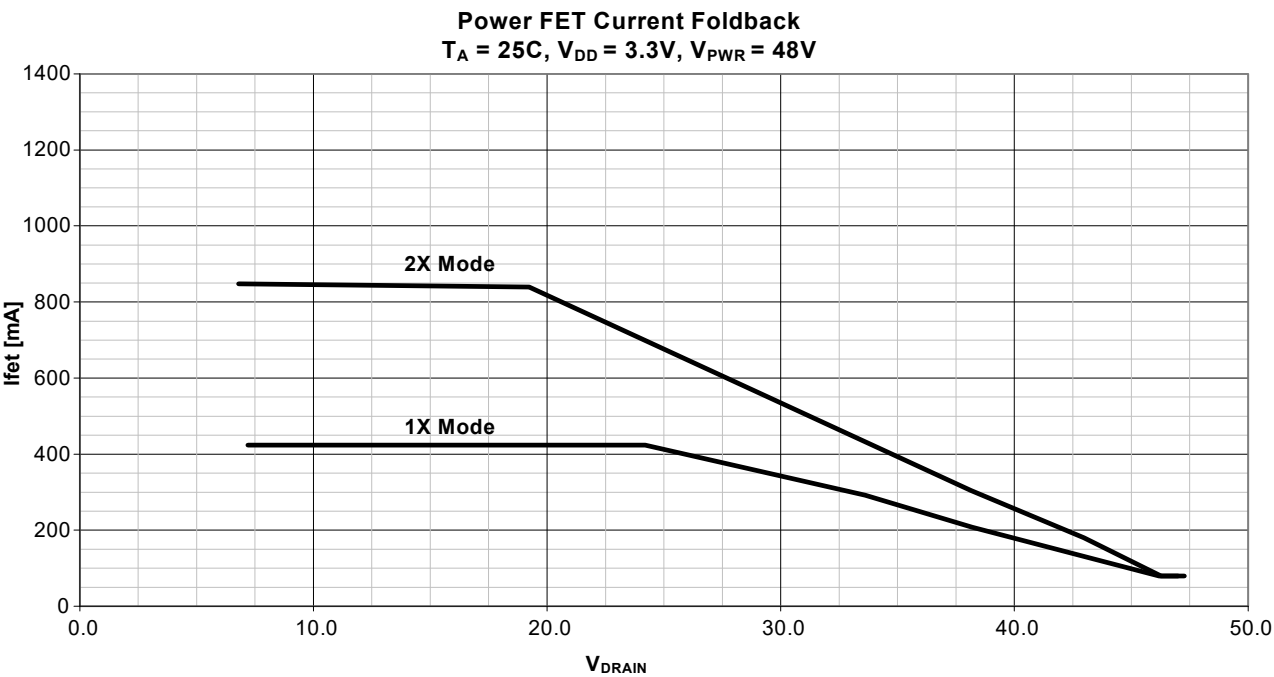

Figure 9. Fold Back Current in IEEE 802.3at (1X) and 2X Current Limit Modes
- Linear fold-back behaves as shown in Figure 9 on page 16.